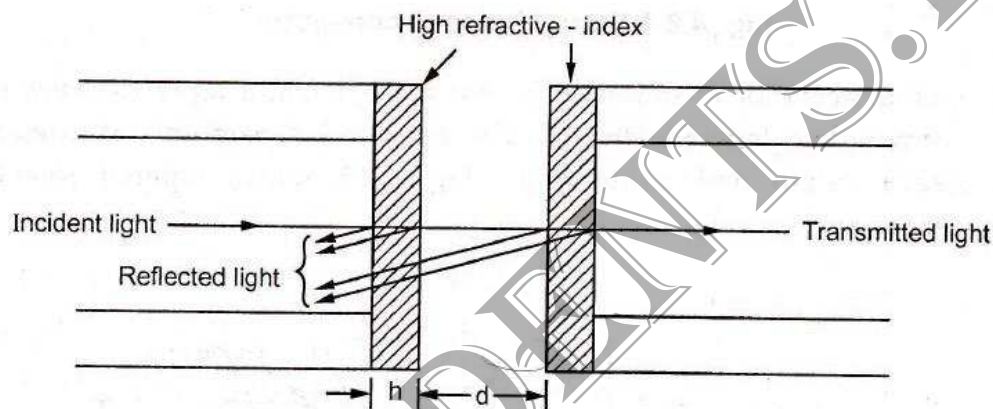

Fig. 4.8.6 Reflections from fiber end faces
- x At the connection point of optical link low reflectance levels are desired since the optical reflections can be source of unwanted feed back into the laser cavity. Due to this unwanted feedback the optical frequency response may degrade, also it generates internal noise within the source affecting overall system performance. Fig. 4.8.6 shows the connection model.